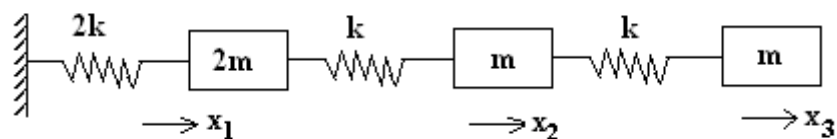

Figure 8b
- (b) Determine the stiffness matrix for the system shown in figure 8b [6+10]